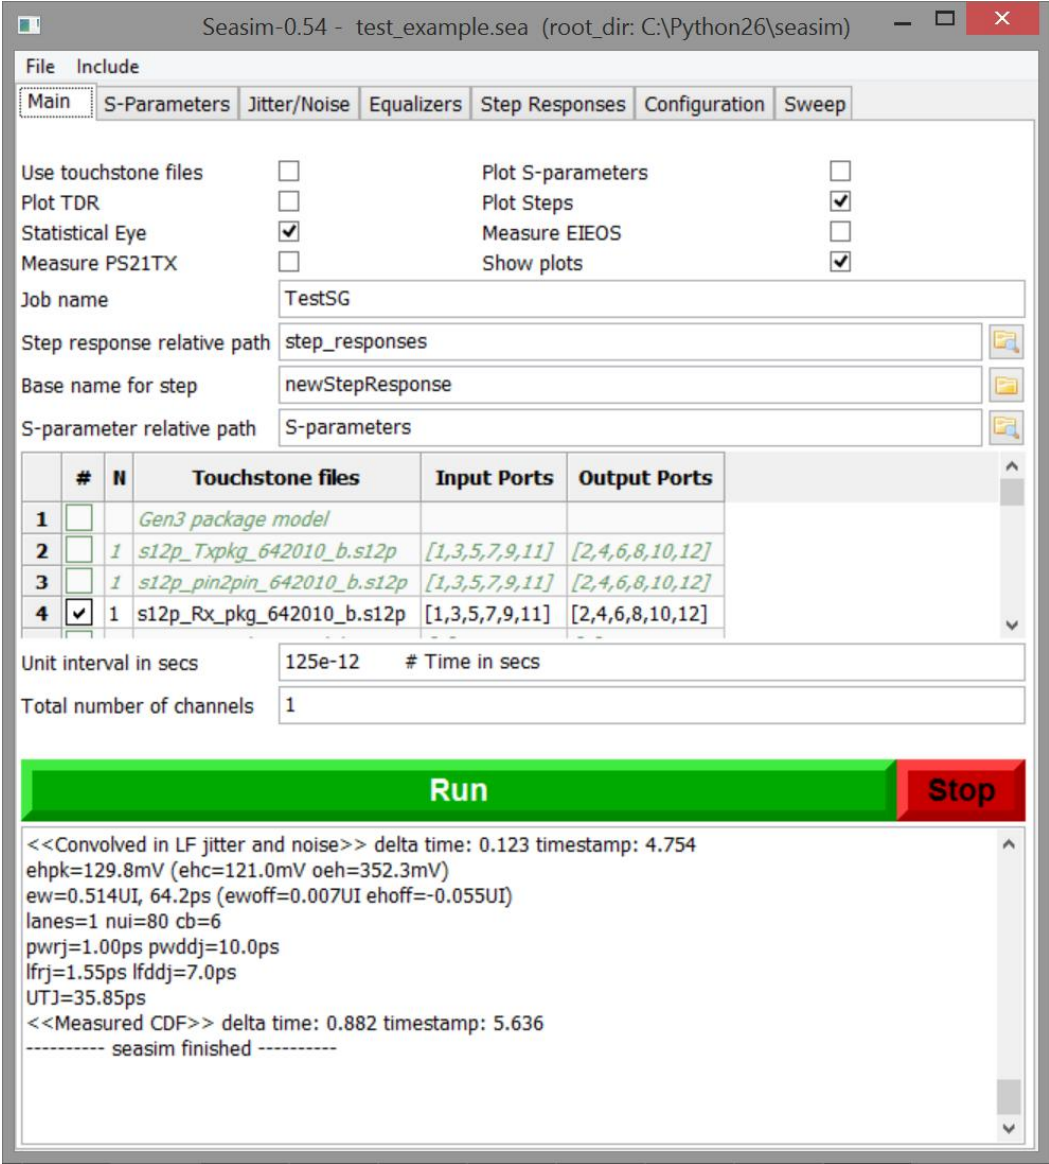

FIGURE 112. SEASIM MAIN SETUP
- b) Check the options as shown in Figure 112.